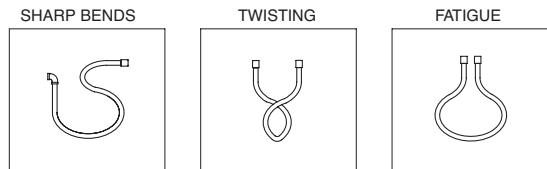

FIGURE 21
3. 3/8 in. schedule 40 pipe will need to be run from the hose connection to the distribution nozzle(s) installed/affixed to the appliance. Pipe must be installed and adequately secured at a height at or below the cooking surface of the appliance. (See Figure 21.)
3. The Agent Distribution Hose should always be in a vertical natural loop, never having any bends greater than a 3 in. (7.6 cm) radius (6 in. (15.2 cm) diameter), hose twists, or sharp bends. (See Figure 21.) If any of these conditions exist, the hose and/or hose connections will require installation modifications.